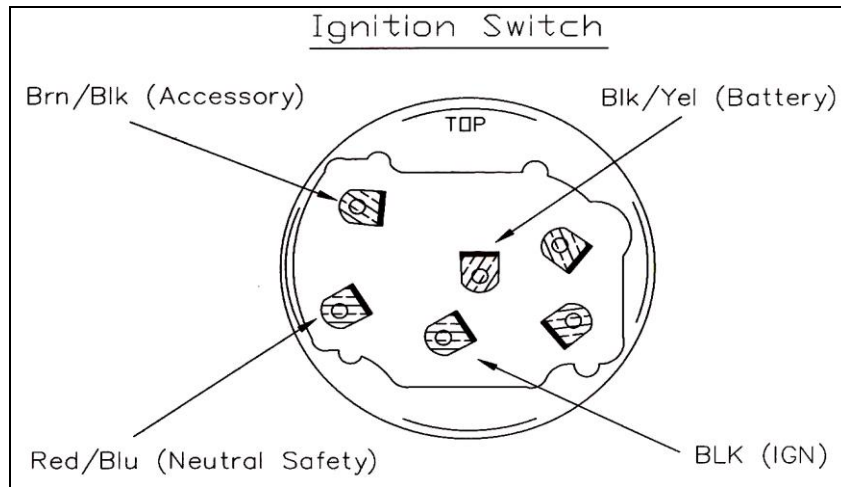

Figure 7-16 Ignition Switch w/Painless Harness P/N 10118
- 7.7.1** Connect the IGNITION SWITCH wires to the new supplied Ignition Switch as illustrated in **Figure 7-16**. This switch is **ONLY SUPPLIED in P/N 10118**. On **1967-1972 Model trucks it will be necessary to cut the Ignition Switch wires to fit. They are extra long to accommodate the later model truck dashes. The four spade terminals required are included in the parts kit. See Figure 7-16 and 7-17.**